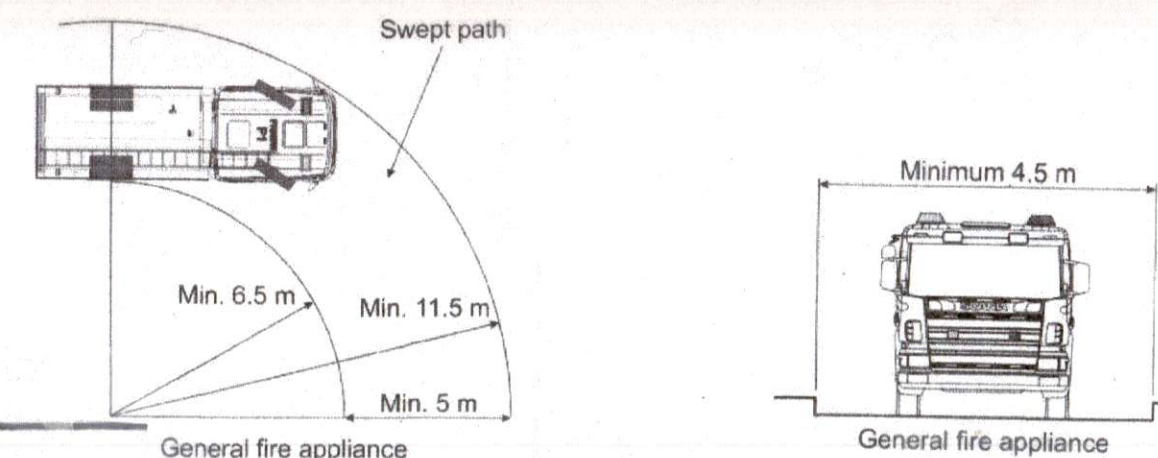

Figure 4 Minimum turning circle radius (curved section)
7.1.4 The minimum turning circle radius of any curved carriageway section is to be 6.5 m (inner) and 11.5 m (outer) for general fire appliance access, or 7.5 m (inner) and 14.6 m (outer) for specialist fire appliance access (see Figure 4).
7.1.5 The distance between inner and outer turning circle radius is to provide body swing clearance (i.e. vehicle swept path), and not be less than 5 m for general fire appliance access and 7.5 m for specialist fire appliance access (see Figure 4).